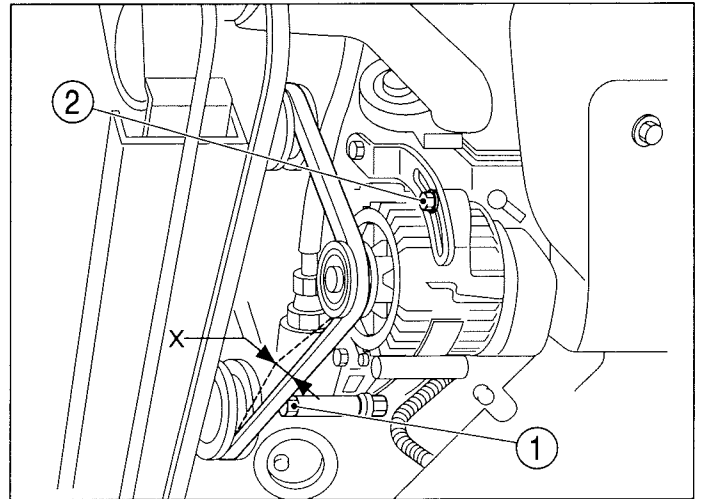

FIG. 84
FIG. 84: To adjust belt tension, loosen the alternator pivot bolt and nut (1) and tensioning bracket bolt (2). Pull outward on top of the alternator to correctly tension belt and tighten the bolt (2) first and then tighten the pivot bolt (1).